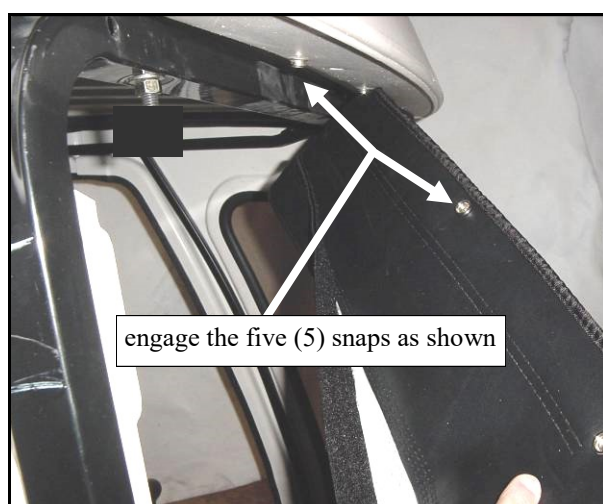

Fig. 7.2 (view taken from passenger's side)
7.2 Per fig. 7.2, install the front draft panel by engaging all five (5) snaps as shown. Note: orient the black vinyl so the lower flap opening is as shown.